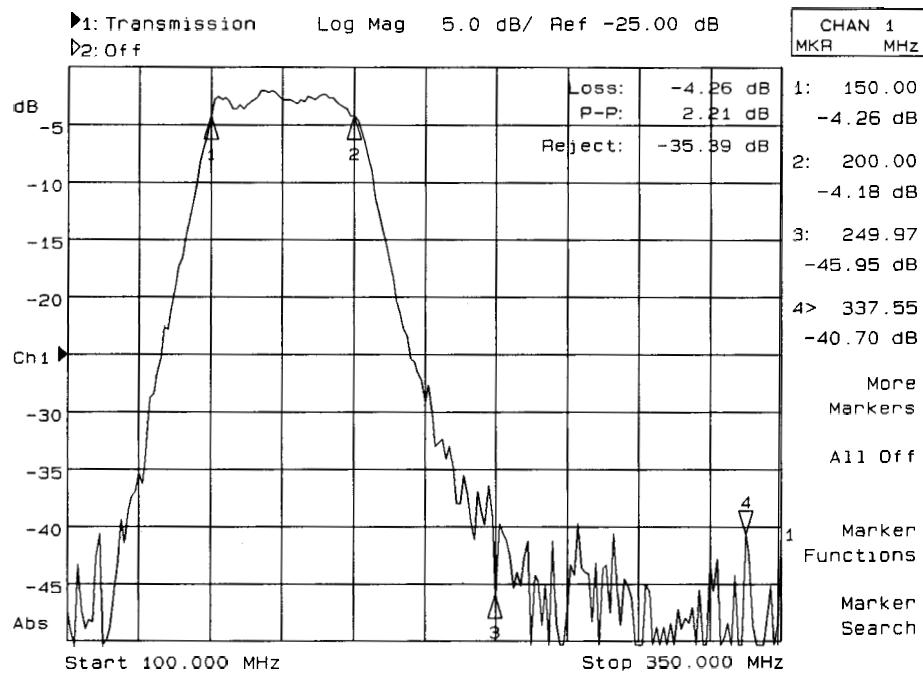

Figure 4-14. RF Filter Statistics Function
4. See Figure 4-14 for an example of an RF Elter stats search.